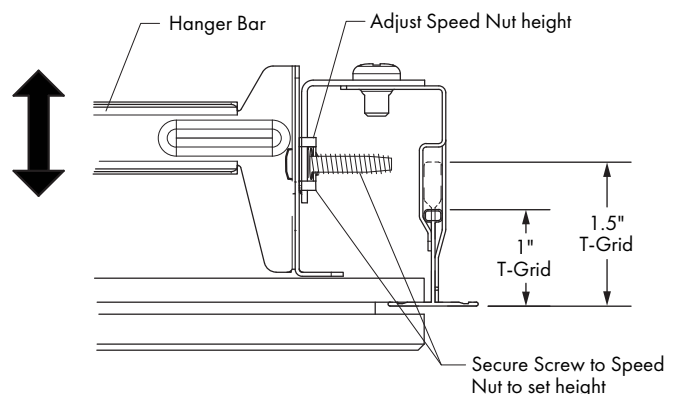

FIG 5.6 Adjust vertical Housing height
STEP 6 Adjust vertical height of Housing by sliding speed nuts so Housing is level with Ceiling Tile. Lock position by tightening Mounting Screws - **FIG 5.6**.